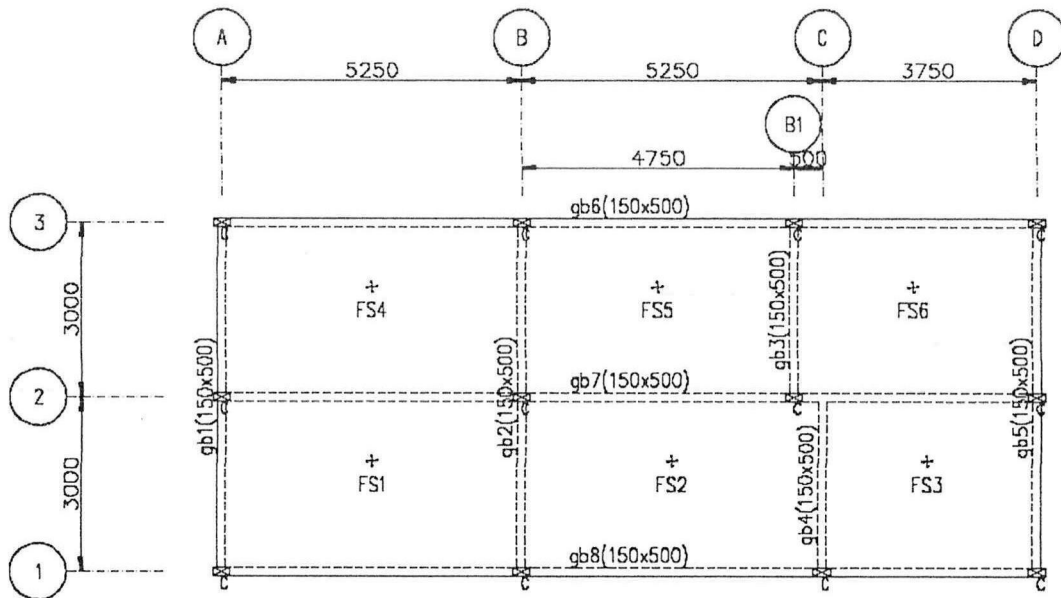

Figure Q4: Ground Beam Layout
- Q4** The **Figure Q4** shows part of the second floor plan of a reinforced concrete office building. The concrete for slabs and beams are poured together and the thickness of the slab is 150 mm. Detail specification is given as follows: